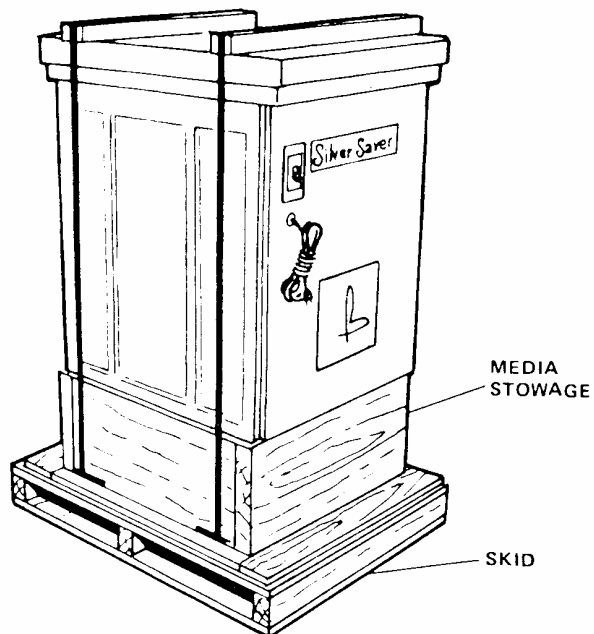

Figure 2-1. Model BB2016 with Shipping Carton Removed
1. Remove unit from shipping carton (See fig. 2-1.)